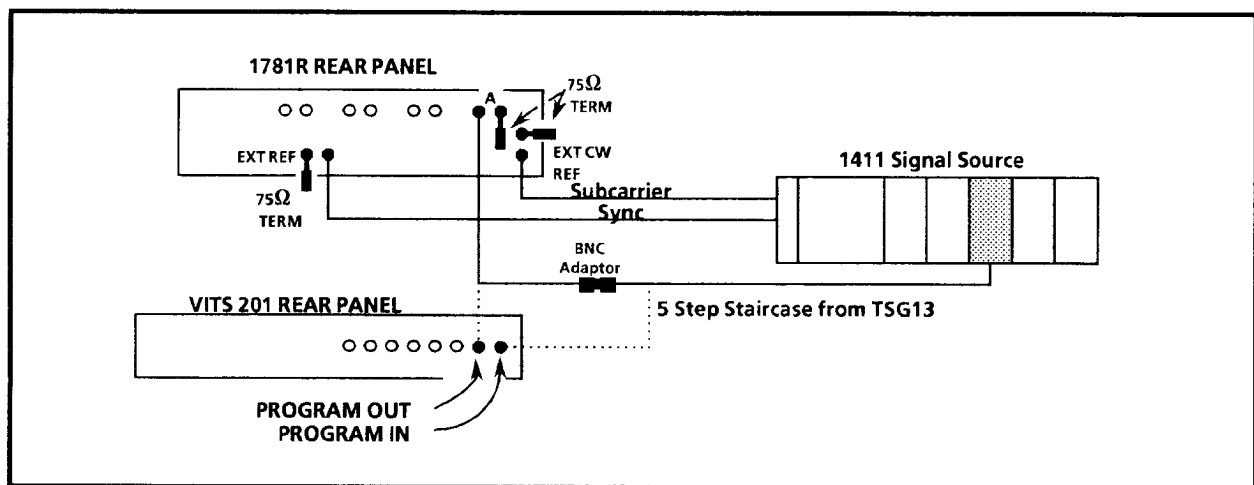

Figure 6-9. Equipment Connections to Check Program Channel Diff Phase and Gain.
- a. Connect the equipment as shown in Figure 6-9. Initially the TSG13 output is applied directly to the 1781, using a BNC female-to-female adaptor. Set the TSG13 to provide a 5-step staircase with 280 mV of U subcarrier.